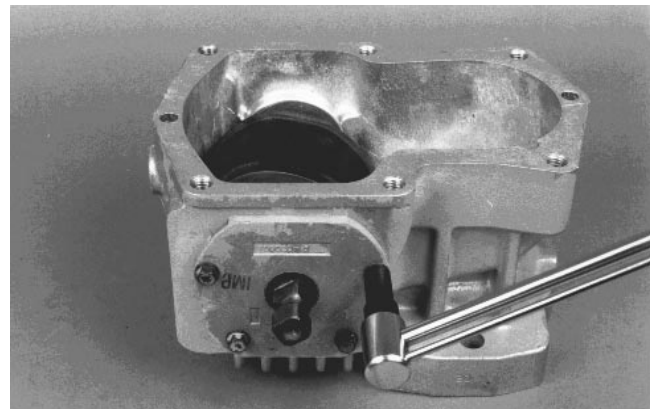

Figure 61
6. Install hex tapping screws and tighten to a torque of 6 to 9 ft-lb (Fig. 61).